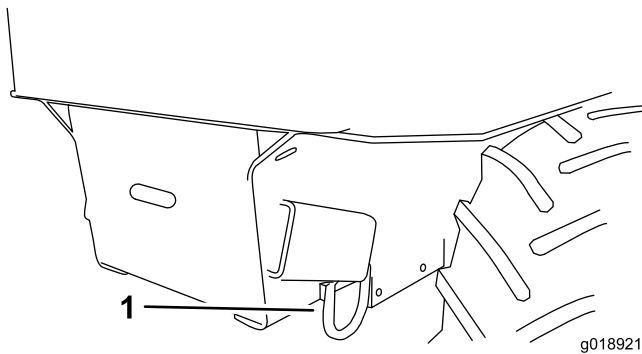

Figure 15
8. Fasten the front tie-down loops of the machine to the trailer (Figure 15).